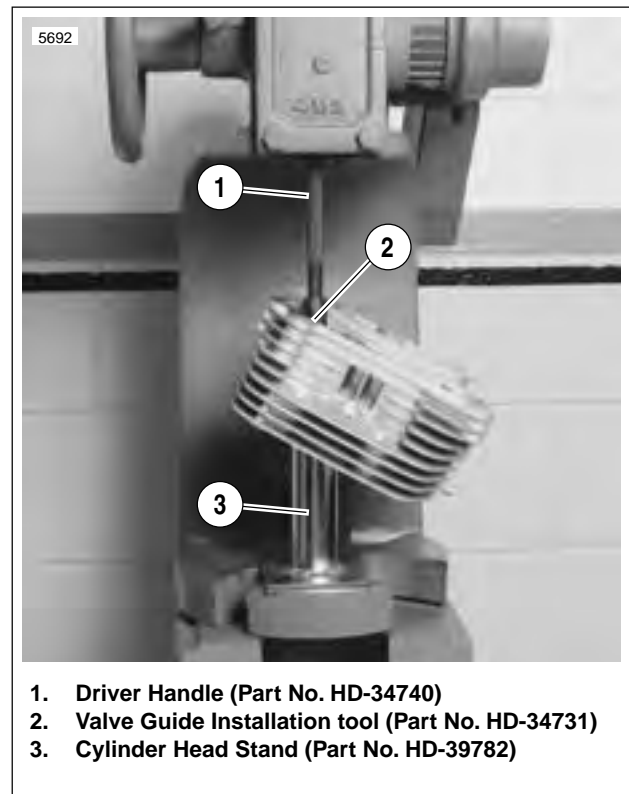

Figure 3-55. Installing Shoulderless Valve Guide
- See Figure 3-55. Install shoulderless guides using VALVE GUIDE INSTALLATION TOOL (Part No. HD-34731) and DRIVER HANDLE (Part No. HD-34740). Press or drive guide until the tool touches the machined surface surrounding the guide. At this point, the correct guide height has been reached.